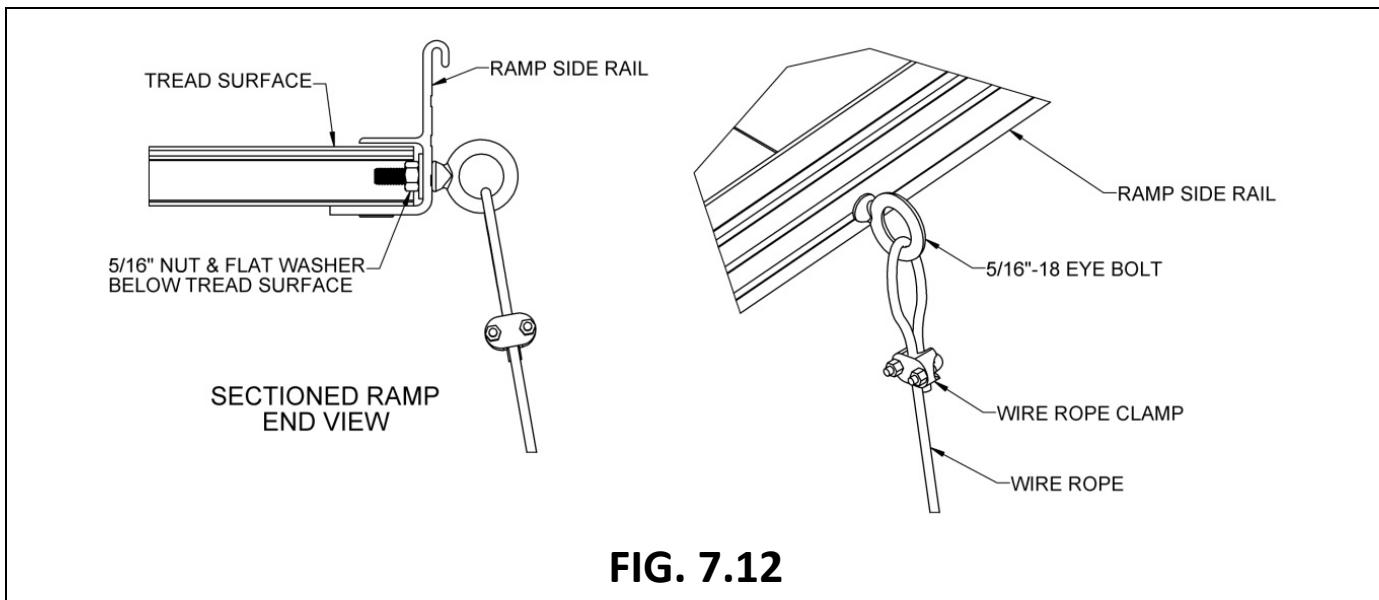

FIG. 7.12
7.7.13. Install one of the 5/16" eye bolts and secure to the ramp using one 5/16" flat washer and one 5/16" nut in each hole (FIG. 7.12).